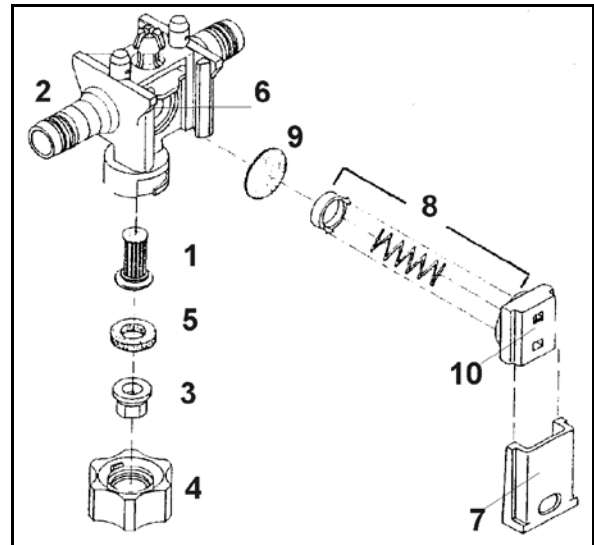

Fig. 186
From time to time, check the seating of the slider (Fig. 186/7).
- To do this, insert the slider into the nozzle body (Fig. 186/2) as far as possible using moderate thumb pressure.
1. Insert the nozzle filter (Fig. 186/1) into the nozzle body (Fig. 186/2) from below.
2. Insert the nozzle (Fig. 186/3) into the bayonet nut (Fig. 186/4)
3. Insert the rubber seal (Fig. 186/5) above the nozzle.
Deposits on the diaphragm seat (Fig. 186/6) can cause the nozzles to drip after the boom is shut-off. If this occurs, clean the diaphragm in question as follows:
1. Pull the slider (Fig. 186/7) out of the nozzle body (Fig. 186/2) towards the bayonet nut.
2. Remove the spring element (Fig. 186/8) and the diaphragm (Fig. 186/9).
3. Clean the diaphragm seat (Fig. 186/6).
Note the correct orientation for installing the spring element. For installation, the stepped, upwards-sloping edges on the left and right of the housing of the spring element (Fig. 186/10) must slope up in the direction of the boom profile.